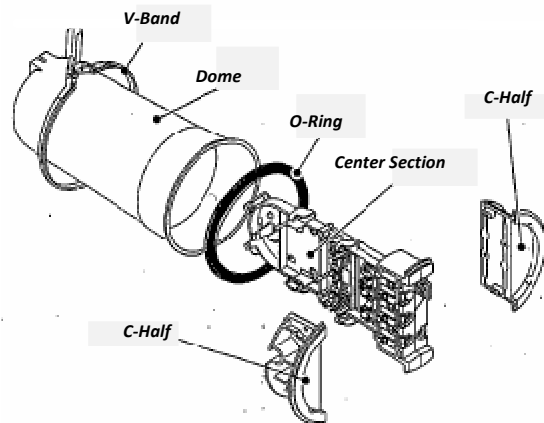

Figure 1 – Components of LG250 Fiber Optic Closure
1.01 The LG 250 Sealed Fiber Optic Splice Closure provides a unique, flexible fiber splicing system for Fiber-in-the-Loop or distribution splicing. Typical types of cables that can be used in this closure are: central core shielded, central core dielectric, loose tube shielded, loose tube dielectric, ribbon shielded, ribbon dielectric. Also, the closure incorporated a unique cable clamp design that secures the cable and allows the dome and C-Half sections to be removed without disturbing previously installed cables. The LG-250 consists of five (5) main components. Refer to **Figure 1**.